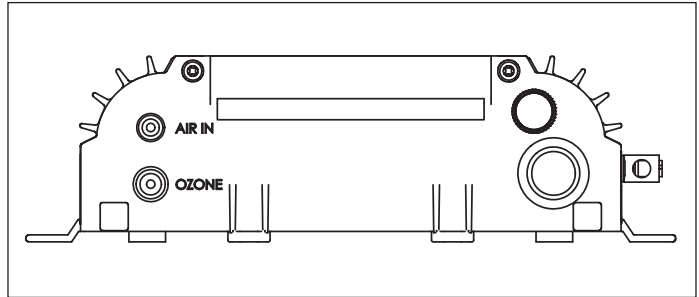

Figure 3 CoPilot Connections
5. The base of the CoPilot has two tube connections. Connect the longer end of the ozone supply tubing to the port marked "OZONE" (see Bottom View - Figure 3). NOTE: Connecting the Ozone Line to the incorrect port will cause damage to the ozone generator.
2. Gas Flow: Connect the Flowmeter provided to the "AIR IN" port on the base of the CoPilot (see Figure 3). Under worst-case system conditions the Flowmeter Ball should indicate at least a small amount of air flow. If not, adjust system valves as required to reduce back pressure and/or increase flow through the manifold. Under nominal conditions, the Ball should float above the middle of the flowmeter. It is ok if the Ball is all the way at the top if it is not stuck. Tap the Flowmeter to verify that the Ball is not stuck.